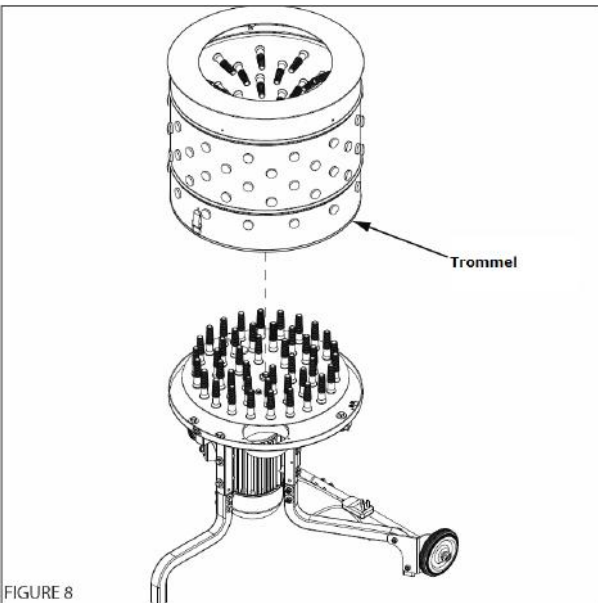

FIGURE 8
8. Place the drum on the machine (**FIGURE 8**).